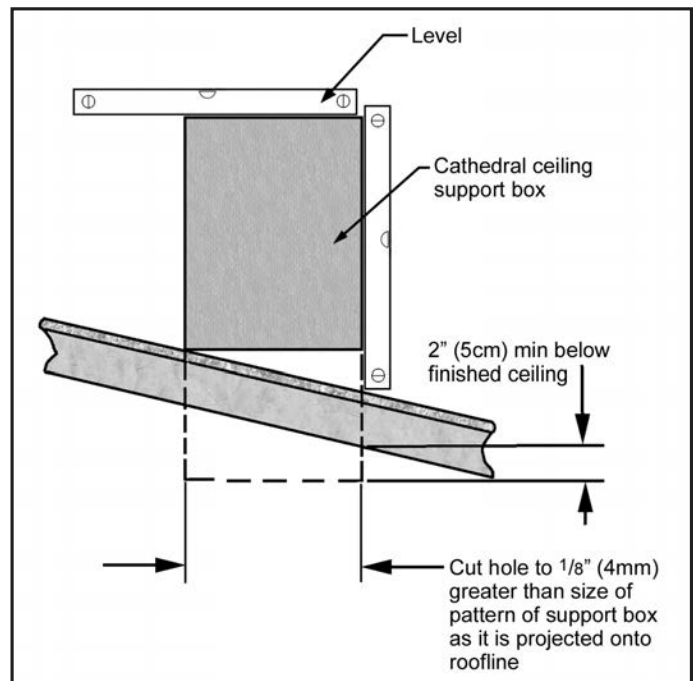

Figure 47: Cathedral Ceiling Support Box Leveling.
4. Lower the "Support Box" through the hole in the roof until the bottom of the "Support Box" protrudes at least 2 inches (5 cm) below the ceiling. Align the "Support Box" both vertically and horizontally with a level as shown in Figure 47. Temporarily tack the "Support Box" in the place through the inside walls and into the roof sheathing.